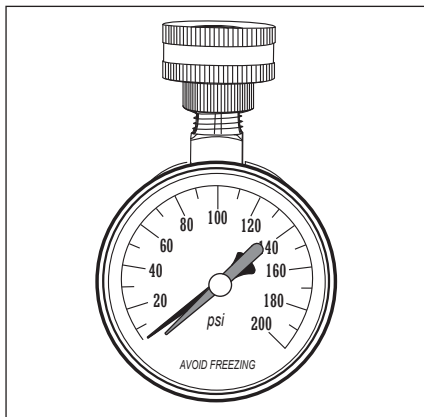

Figure 5 - Use a Water Pressure Gauge to make sure your home's water pressure is not too high.
- Water Pressure Gauge (Figure 5 on page 7)
We recommend checking your home's water pressure with a pressure gauge (Figure 5). Most codes allow a maximum incoming water pressure of 80 psi/551 kPa. We recommend a working pressure no higher than 50-60 psi/345-414 kPa.